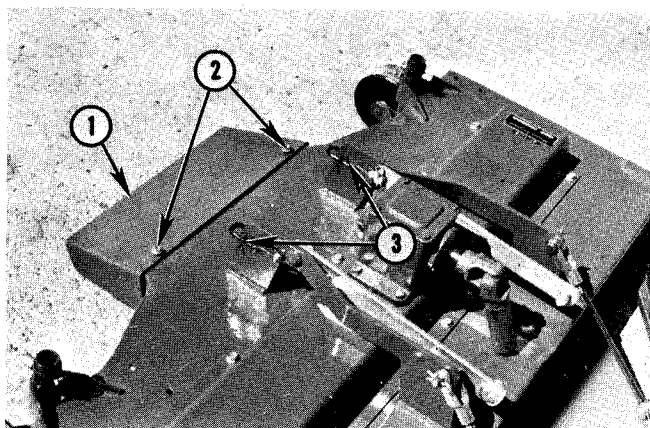

Fig. 49 — Deflector Chute
1. Install hanger strap retainer springs as shown in Fig. 49.